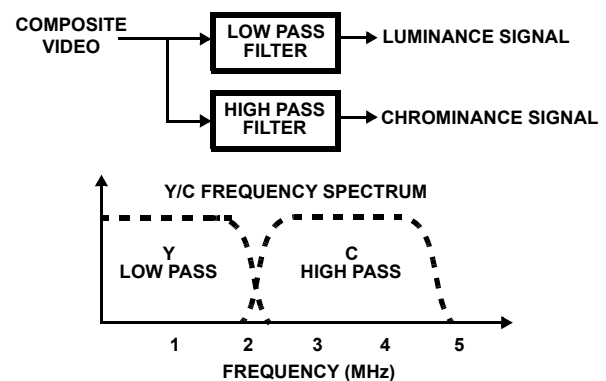

FIGURE 3. LOW PASS FILTER TECHNIQUE SPECTRUM
first available. To extract luminance (Y) information a low pass filter with a cutoff around 2MHz to 2.5MHz is used. A high pass filter with a bandpass characteristic of 2.5MHz to 5MHz is used to pass the chrominance (C) information. This method works because the C information is centered around 3.5MHz (4.43MHz for PAL) and extends down to 2.5MHz. Figure 3 shows a typical frequency plot of this technique. The drawback of this technique is loss of detail. High frequency luminance information is removed from the signal and as a result much detail is lost. Edges of objects in a scene contain very high frequency information, loss of these frequencies blur the picture. Some other artifacts from using this technique are high frequency luminance crosstalk and serious cross-color effects. This method, although low in cost, produces poor quality video, subsequently this technique is used only on very low cost VCRs these days.